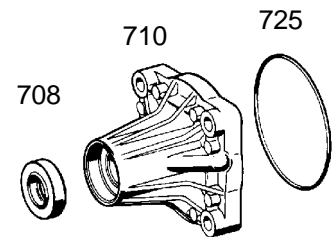

Fig. 14
6.1.1 Pull out shaft seal (708) with tool [3] (**Fig. 14**).